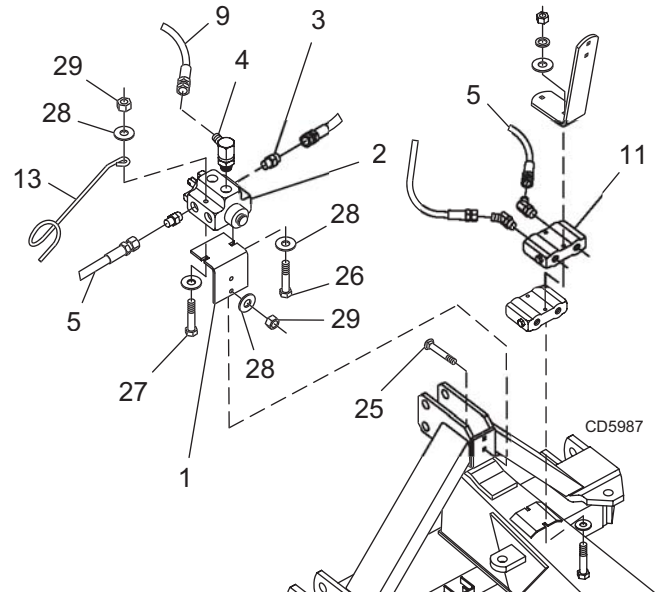

Figure 26. Selector Valve Kit Installation
Refer to Figure 26.
2. Remove hose holder (13) and hardware from the A-Frame if previously installed during angle kit assembly.
3. Attach double selector valve (2) to valve mounting bracket (1). Secure with cap screw (26), cap screw (27), four flat washers (28), and lock nuts (29).
**NOTE:** Cap screw (27) is 3-1/2 inches long and used for attaching hose holder (13) to the top of the selector valve as shown in Figure 26.